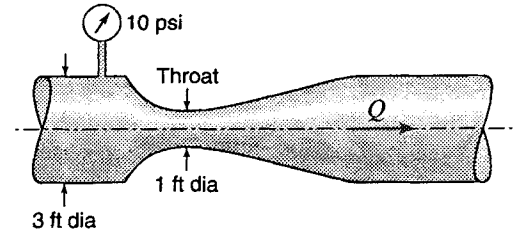

Figure S5.9
- 5.10.4 *Water at 50°C flows horizontally at a rate of 2 m³/s through a constriction similar to that in Fig. S5.9 when the atmospheric pressure is 750 mmHg. The gage reading is 30 kPa and  $d_1 = 0.5 \text{ m}$ . Neglecting head loss, find the largest throat constriction diameter  $d_2$  which will cause cavitation.*